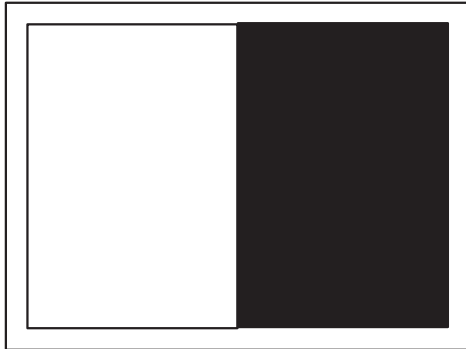

Fig. 6-4-8 LCD Monitor Screen
- 3) When the DVD video camera/recorder has shifted to the test mode, the LCD screen will be black and white (see Fig. 6-4-8), and the LCD ADJUSTMENT MENU screen will appear on the PC monitor screen.